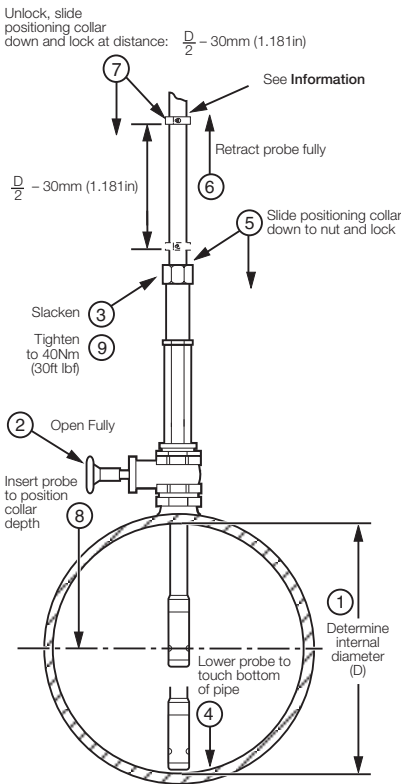

Fig. 2.12 Setting the insertion Depth – Centre Line Method for Pipe Diameters 1m (40in)
2.6.1 Centre Line Method for Pipe Diameters ≤1m (≤40in) – Fig. 2.12